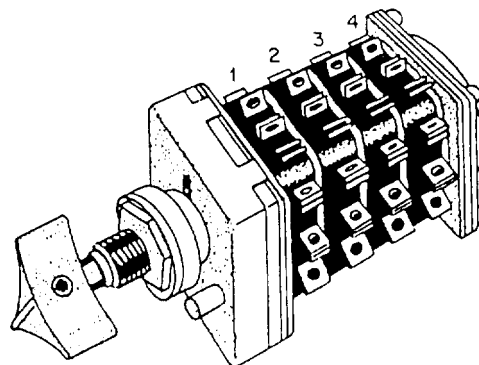

Figure 2-12.—Type JF switch.
**TYPE JF.**— The JF switch (fig. 2-12) was developed primarily to replace toggle switches in the 10- and 20-switch boxes for sound-powered telephone applications.